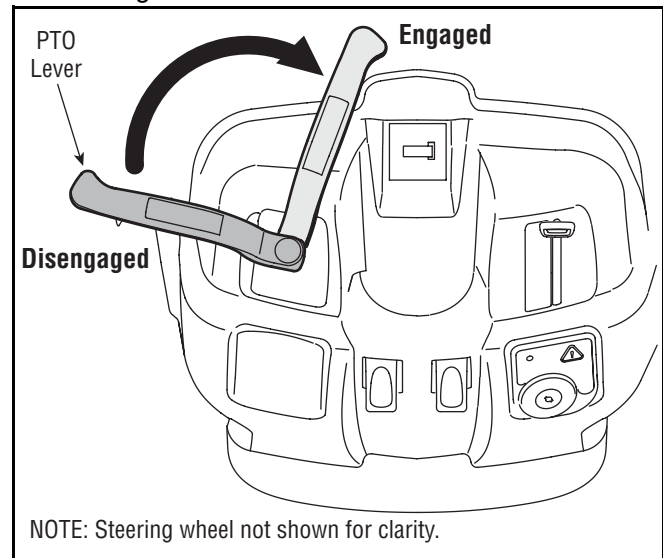

Figure 12
2. Grasp the PTO (Blade Engage) lever and pivot it all the way forward into the engaged (ON) position. See Figure 12.